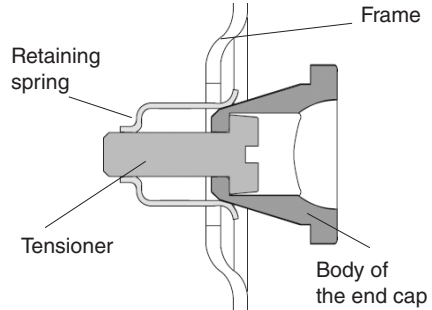

Fig. 10.1
- 3 / Tighten the tensioner to **1 Nm** until the cap is fully seated in its housing (Fig. 10.1).